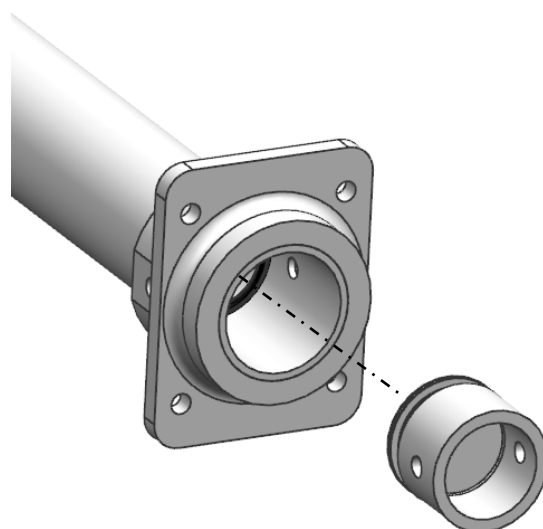

Figure 4-3: Removed Piston
6. Using a plastic mallet, remove the piston plug through the bottom of the piston tube by tapping on the dowel. Refer to **Figure 4-3**.